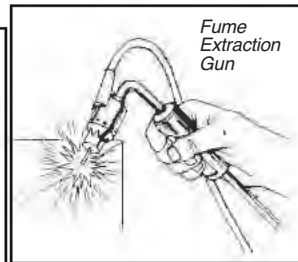

Figure 7
- 2) fume extraction gun (Figure 7)